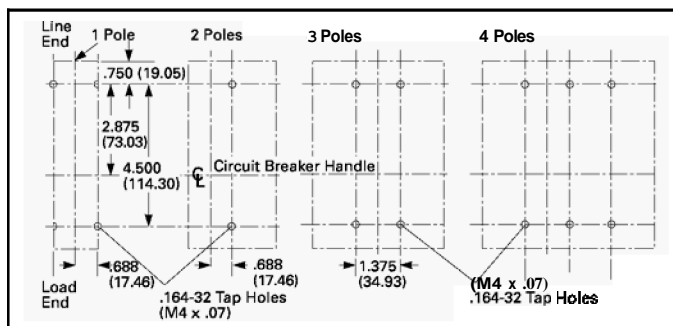
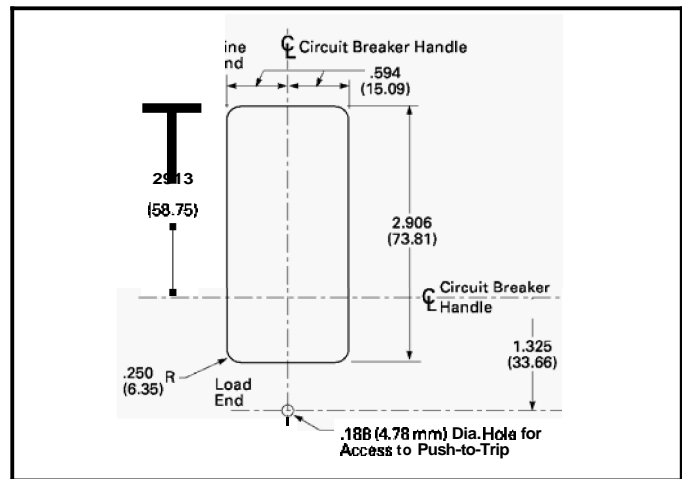

Fig. 2-1. Circuit Breaker Mounting Bolt Drilling Plans
Fig. 2-2. Circuit Breaker Escutcheon Dimensions
- For individual mounting panels, make sure that mounting panel is predrilled using bolt drilling plan (Fig. 2-1). For deadfront cover applications make sure panel cover is cut out to correct escutcheon dimensions (Fig. 2-2)